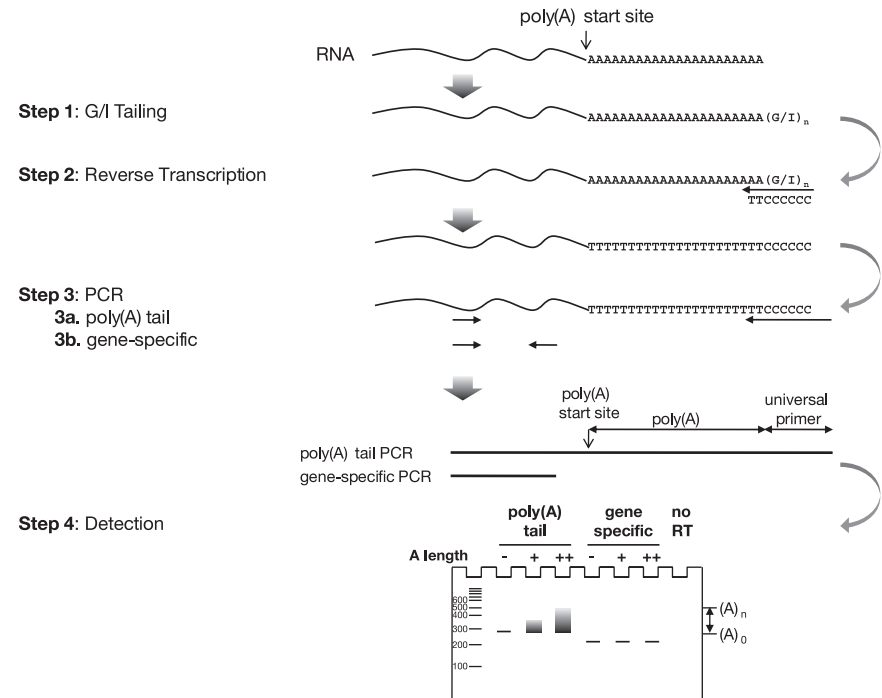
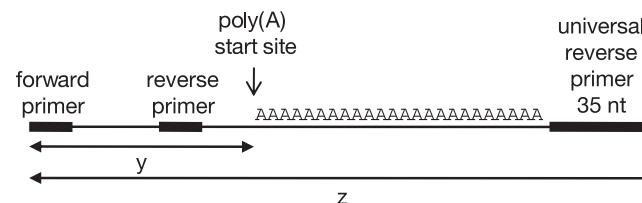

Figure 1. Poly(A) Tail-Length Assay Procedure.
Figure 2. Example of poly(A) tail-length determination. A-tail length is $(z-y-35)$ where z can vary based on gel results.
The Poly(A) Tail-Length Assay Kit determines the length distribution of mRNA poly(A) tails. PCR products of mRNAs with short tails will yield discrete bands, whereas mRNAs with long tails will yield a smear on the gel (Fig. 1). PCR amplification with the gene-specific forward primer and Universal reverse primer amplifies the sequence upstream of the polyadenylation start site (e.g. the 3'-UTR) to the end of the poly(A) tails. The poly(A) tail-lengths of the gene-of-interest are the sizes of poly(A) PCR-amplified products minus the calculated length of the gene-specific forward primer to the putative polyadenylation start site (Fig. 2). PCR with the gene-specific forward and reverse primers should amplify only the upstream sequence of the expected size to validate the specificity of the gene-specific forward primer. The “No RT Negative Control” reaction should have no signal. Examples of results are shown in Figs. 3 and 4.